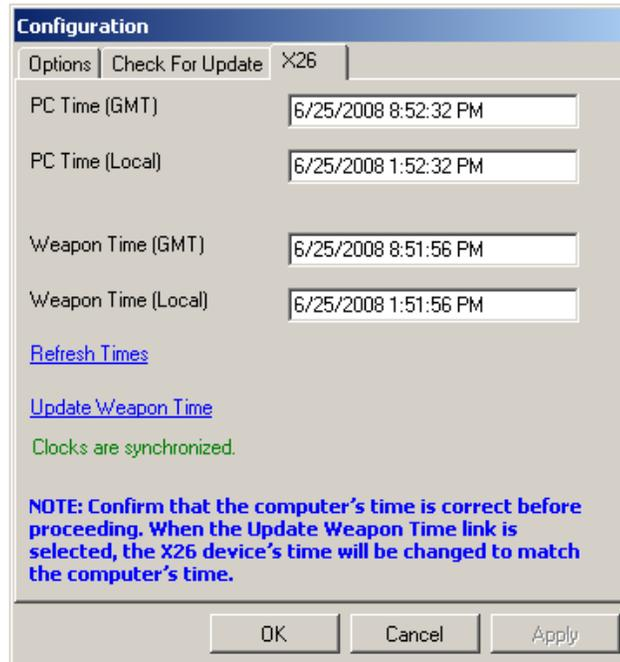

Figure 31
4. Click the **X26** tab. If the X26 device's time is incorrect, click **Update Weapon Time** (Figure 31).